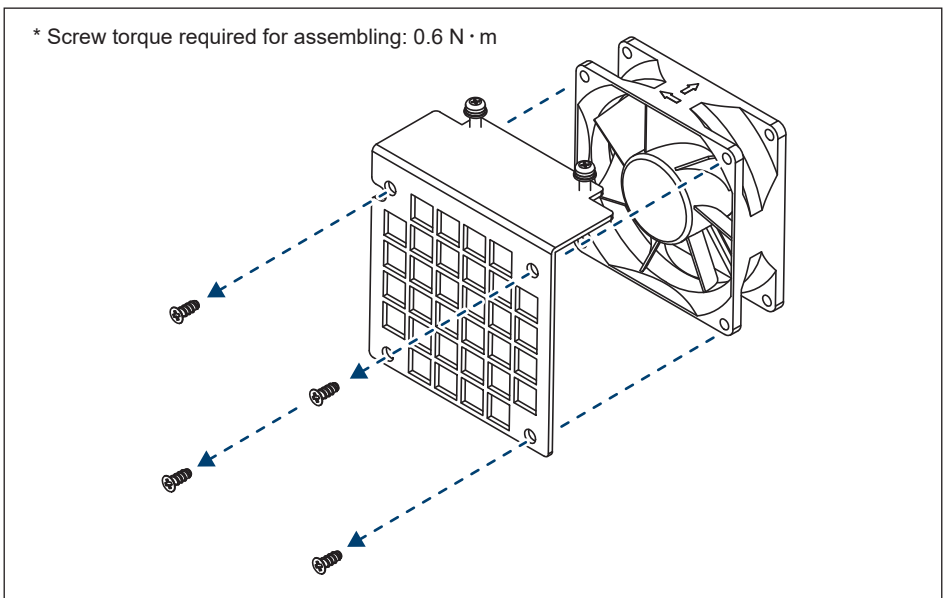

Figure 5-17: Replace with a new fan
- (3) Lift the entire fan assembly. (**Figure 5-17**)
- (4) Clean assembly or replace with a new fan.
- (5) Reassemble by using 0.8 N · m tightening torque.